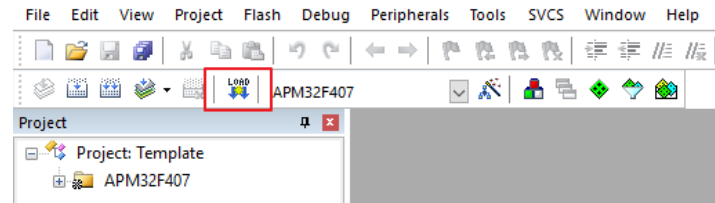

Figure 11
f) As shown in Figure 11, after the previous steps are completed, we can download the compiled program to the development board and run it. In the download process, you only need to directly click the LOAD button in KEIL.